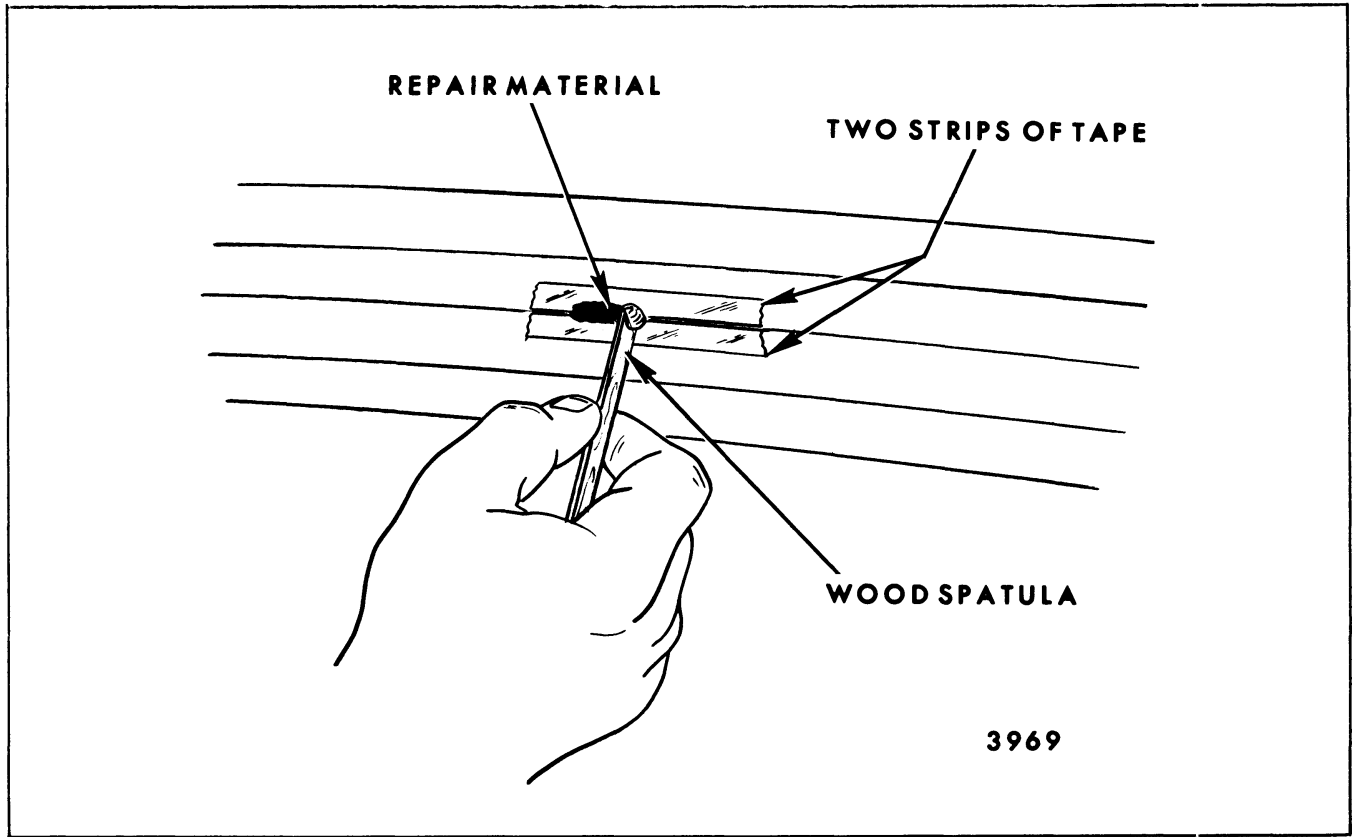

Fig. 10-52-Applying Repair Material to Broken Grid
7. With the glass at room temperature, apply the repair material with the small wooden mixing spatula, slightly over-lapping the existing grid line either side of the break (Fig. 10-52).